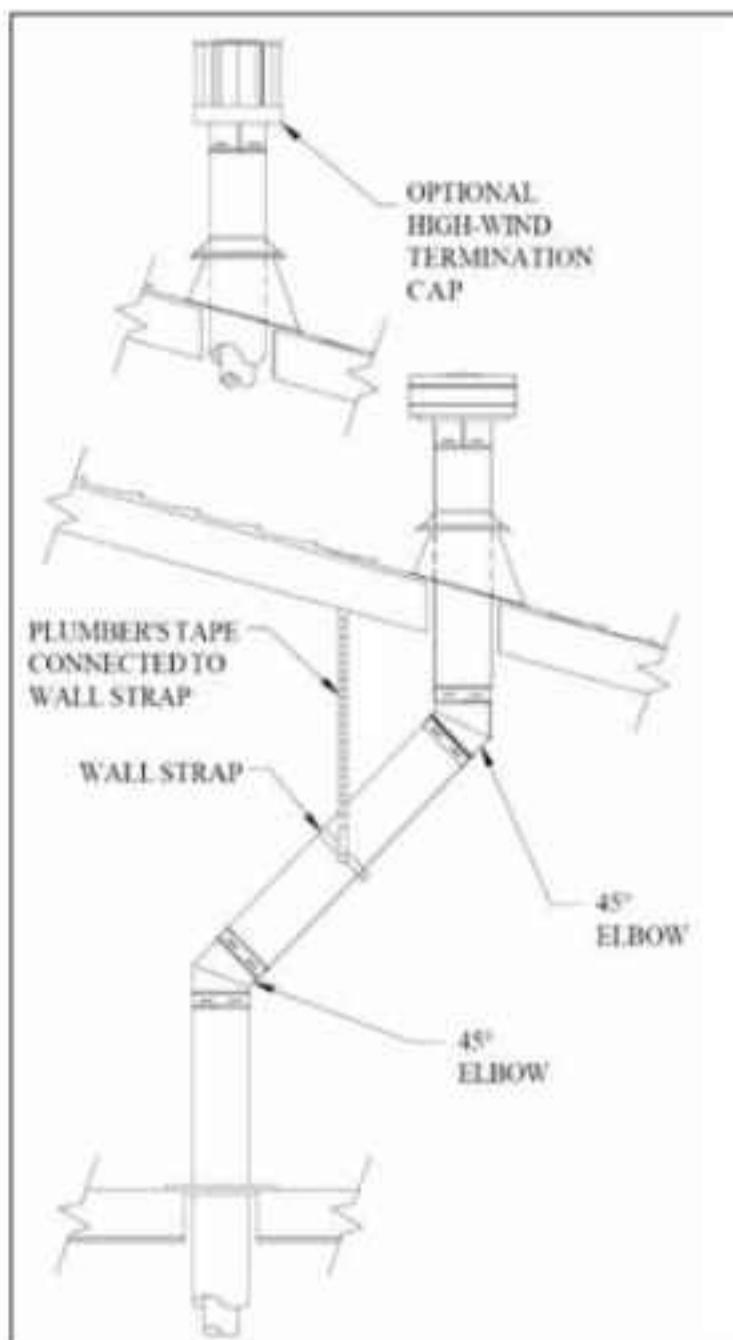

Figure 41: Vertical Installation Using High Wind Cap.
- (1) If an offset is necessary in the attic to avoid obstructions, it is important to support the vent pipe every 3 feet, to avoid excessive stress on the Elbows, and possible separation. Wall Straps are available for this purpose (see Figure 41).
- (2) Whenever possible, use 45° Elbows, instead of 90° Elbows. The 45° Elbow offers less restriction to the flow of flue gases and intake air.